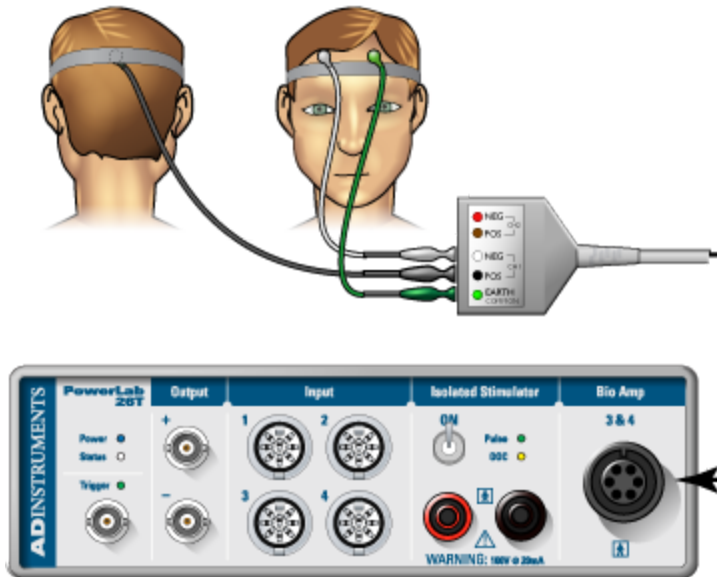

Figure 1. Equipment setup for PowerLab 26T. Image courtesy of ADInstruments ©
2. Connect the 5 Lead Shielded Bio Amp Cable to the Bio Amp Connector on the front panel of the PowerLab (Figure 1). The hardware needs to be connected **before** you open the settings file.
3. Attach the leads of the EEG Flat Electrodes to the Earth, CH1 NEG and POS pins closest to the labeled side on the Bio Amp Cable. Channel 1 “**positive**” will lead to the inion (the bump on the back of the head above the neck) and Channel 1 “**negative**” will lead to the forehead. Channel 2 will be empty and the Earth will lead to the temple. Refer to Figure 1 for proper placement, but do not attach them to the volunteer yet. Follow the color scheme on the Bio Amp Cable.
5. With Figure 1 as a guide, locate where you will place the electrodes. Abrade the skin with the NuPrep Abrasive Gel.
7. While the skin is drying, scoop Electrode Paste into the EEG Flat Electrodes. When the skin is dry, stick the electrodes to the skin (Figure 1). Immediately hold the electrodes and wires in place with the medical tape. Make sure the tape firmly holds the electrodes against the head. Use the elastic bandage to wrap tightly around the head. This will help the electrodes maintain good contact with the skin.